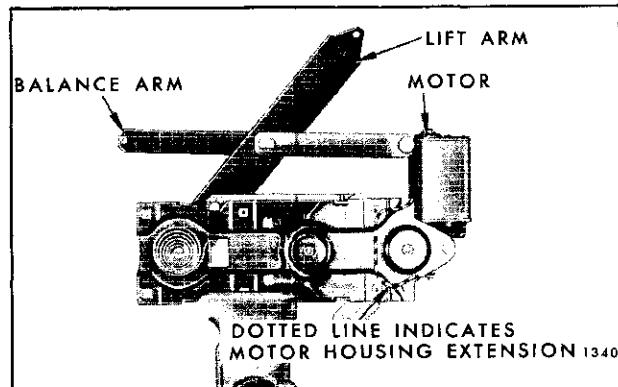

Fig. 6-32—Door Window Regulator and Electric Motor Assembly
1. Remove front door window electric regulator and clamp assembly in a vise (Fig. 6-32).
IMPORTANT: DO NOT drill into the motor housing, part of which is indicated by the dotted line illustrated in Figure 6-32. In addition, locate hole sufficient distance from edge of sector gear to insure proper retention of sector gear to back plate.
4. Remove regulator motor attaching bolts and remove motor from regulator assembly (Fig. 6-32).